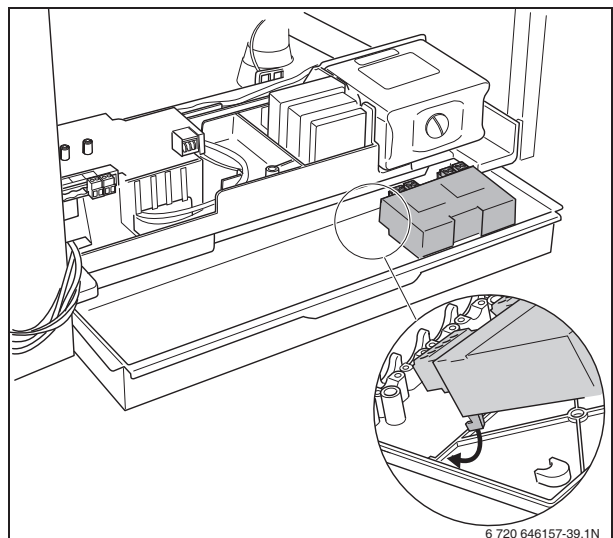

Fig. 39 Clicking the function module into position
- Click the function module(s) into position in the wall bracket (fig. 39).